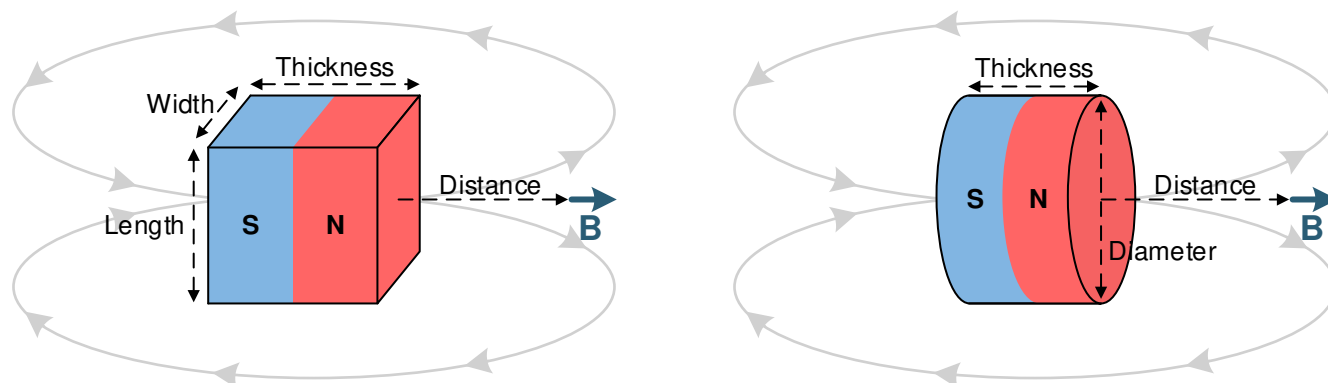

図 8-5. Rectangular Block and Cylinder Magnets
dimensions of a magnet determine the magnetic flux density (B) produced in 3-dimensional space. For simple magnet shapes, such as rectangular blocks and cylinders, there are simple equations that solve B at a given distance centered with the magnet. 図 8-5 shows diagrams for 式 4 and 式 5.
Use 式 4 for the rectangular block shown in 図 8-5:
Use 式 5 for the cylinder illustrated in 図 8-5: